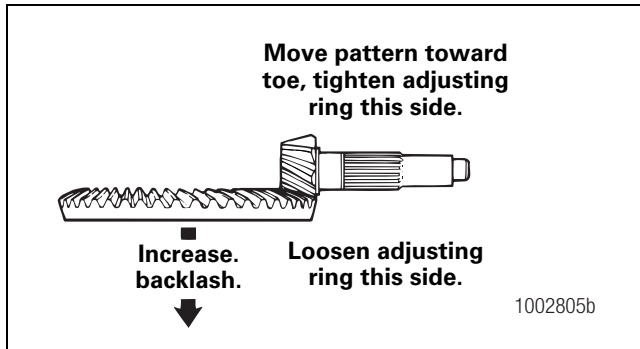

Figure 5.76
- B. Increase the backlash to move the contact patterns toward the heel of the ring gear teeth. Figure 5.76.